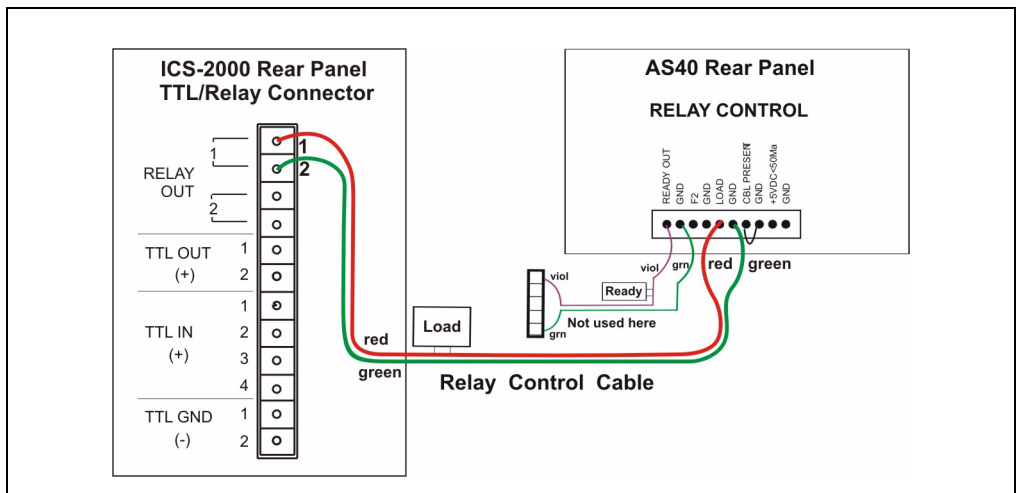

Figure 65. Example AS40 Autosampler Connection
8. Connect the relay control cable's 10-position connector plug to the **RELAY CONTROL** connector on the AS40 rear panel (see Figure 65).
9. Plug the 12-position connector plug into the TTL and relay connector on the ICS-2000 rear panel (see Figure 65). Make sure the red wire connects to position 1 and the green wire connects to position 2.